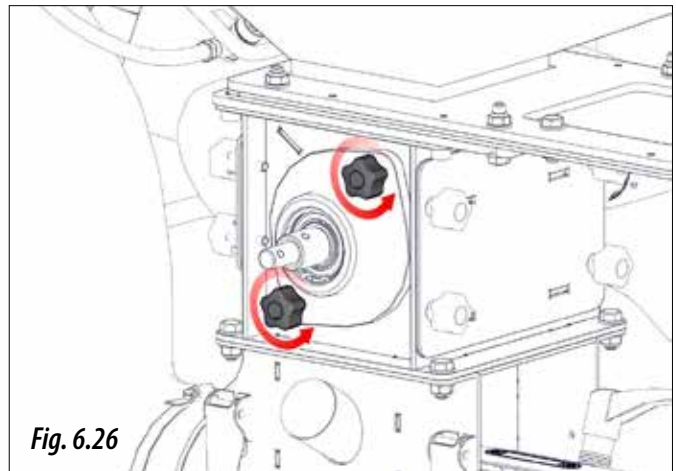

Fig. 6.26
- 2- Remove the two knobs (Fig. 6.26).